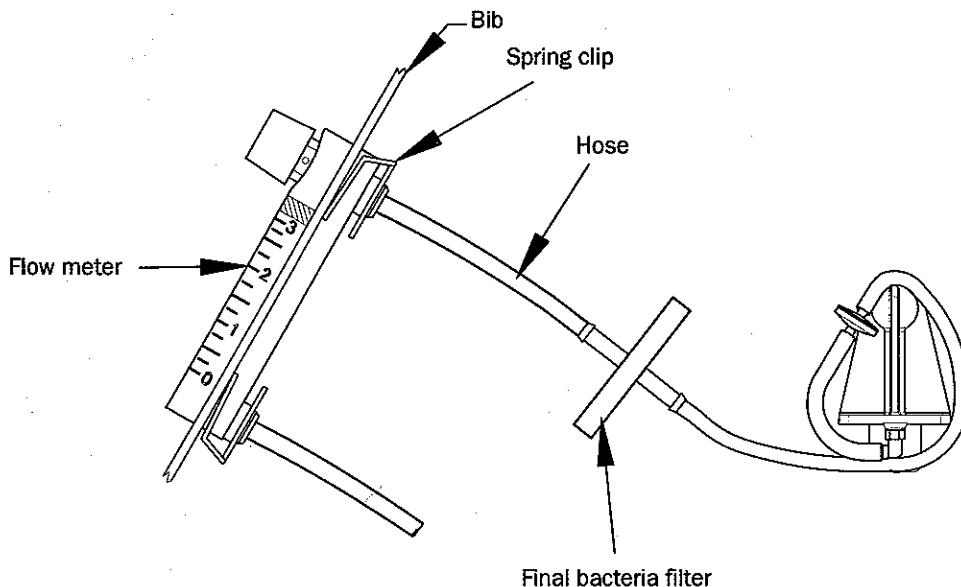

Figure 14
2. Remove the hose from each end of the filter (Figure 14).